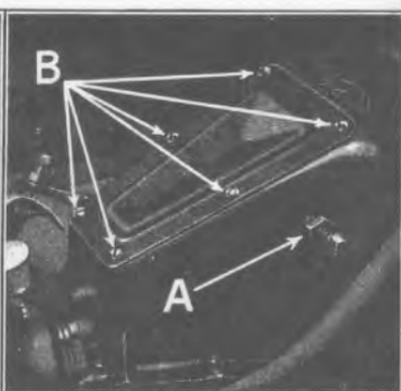

Fig. 299
- 511 Loosen transmission band adjusting screw (See "A" Fig. 299).
527 The transmission cover door and gasket can now be installed by running in the six screws which hold them to transmission cover (See "B" Fig. 299).
- 535** To remove the new type bands, remove transmission cover door (See "B" Fig. 299). Run off the nuts and lockwashers from the ends of the pedal shafts, run out slow speed adjusting screw and remove the springs.